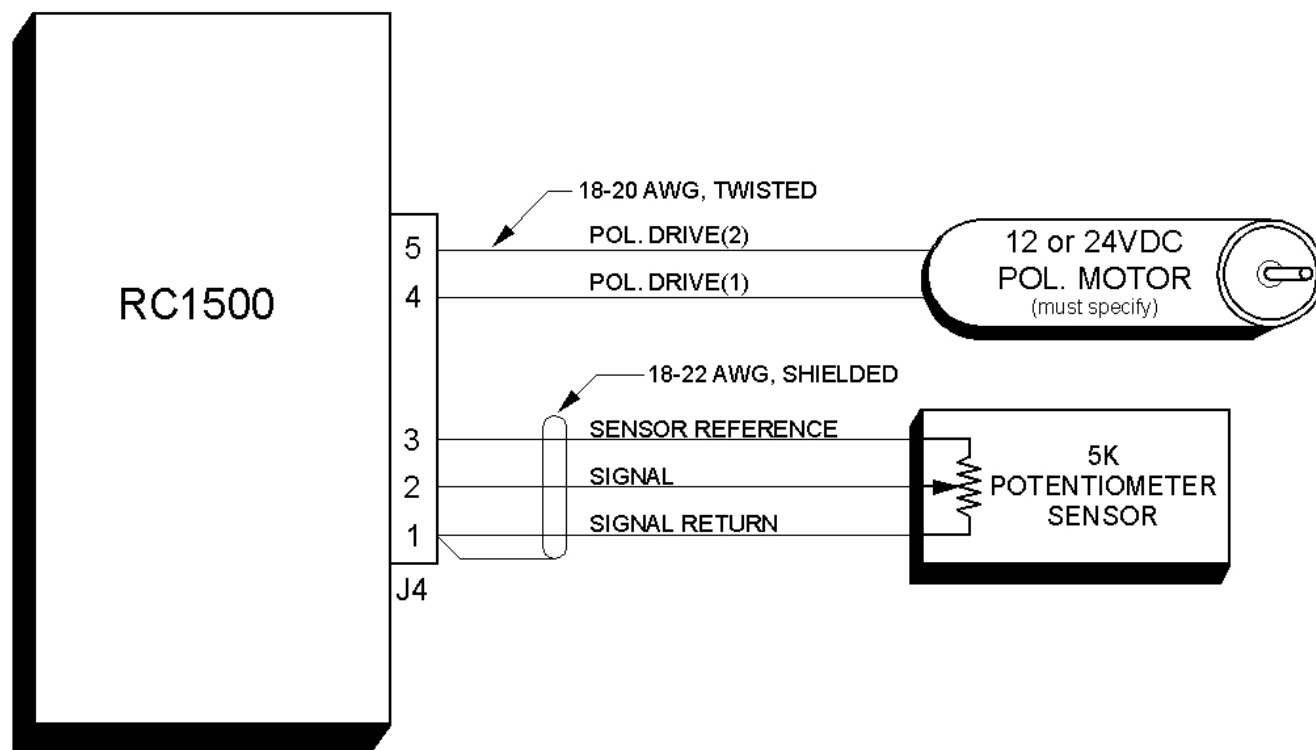

FIGURE 3.4 Rotating Feed Interface (RC2KPOL Option Only)
Figure 3.4 documents the interface of the RC1500 to the rotating feed. Two sets of electrical connections are required to interface an RC1500 equipped with the RC2KPOL option to the rotating feed device. Two conductors are required for the DC motor drive and a shielded triple with bare drain wire is required to interface the potentiometer. The drain wire of the shielded
Figure 3.4 depicts the connection of a rotating feed device with the RC1500. Note that the potentiometer interface cable's drain wire is connected to the Signal Return terminal (1) of connector J4.
1. Connect the polarization/sensor assembly as shown in figure 3.4. Note that shielded cable is required for the sensor and that the shield **MUST** be connected to the GROUND terminal (1) at the back of the controller and **MUST NOT** be connected to anything at the antenna.
2. The *24 VDC Rot Feed* CONFIG mode item must be set to YES (1). Activate CONFIG mode and use the SCROLL DOWN key to bring up the *24 VDC Rot Feed* item. Key in a 1 followed by the ENTER key. If the *24 VDC Rot Feed* item is not accessible in CONFIG